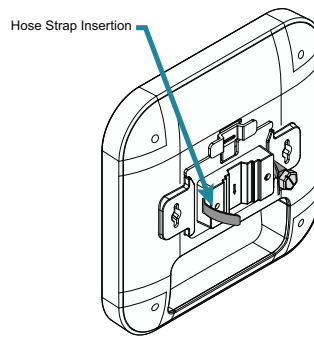

Figure 6. Attach the Pole Mounting Bracket for Vertical Mounting
1. Once the pole mounting bracket is attached to the BSAP, thread the hose strap through the two slots on the pole mount bracket as shown in Figure 6 on page 4.